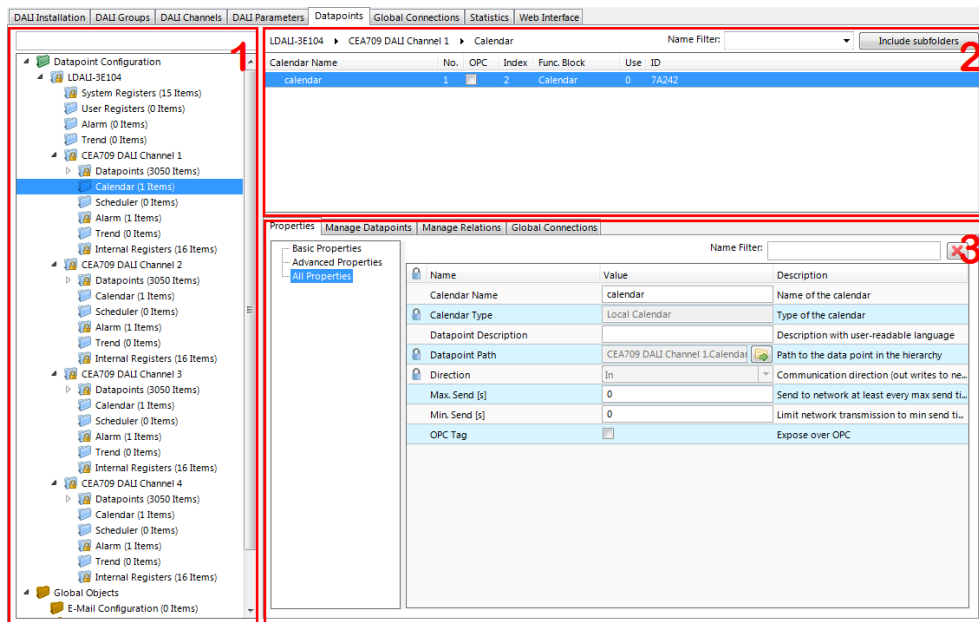

Figure 161: Data Point Manager Dialog.
The Configurator uses a central concept to manage data points. The data point manager is located on the **Datapoints** tab as shown in Figure 161. It is used to select, create, edit and delete user data points, calendar, scheduler, and trendlog objects, e-mail templates, alarm logs, and math objects. Further it allows selecting those data points on the device, which shall be exposed as OPC tags.
- The folder list (number 1 in Figure 161),
- The data point list (number 2 in Figure 161),
- And a property view (number 3 in Figure 161).